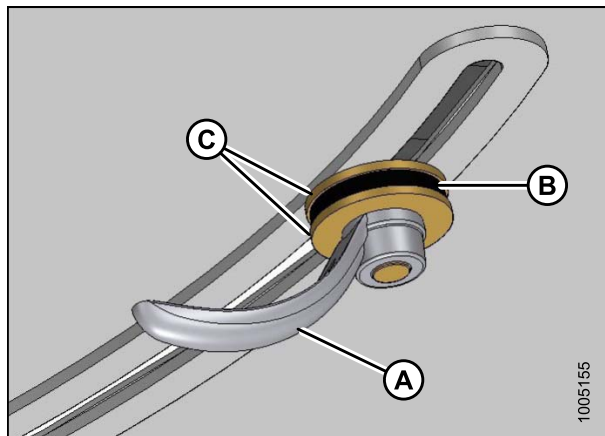

Figure 3.58: Handle – LH
8. Install bolt, washers, and handle nut (A) as shown in Figure 3.58: *Handle – LH, page 54*. Rubber washer (B) must be positioned between metal washers (C).
9. Tighten handle nut (A) against cover to lock deflector in desired position.